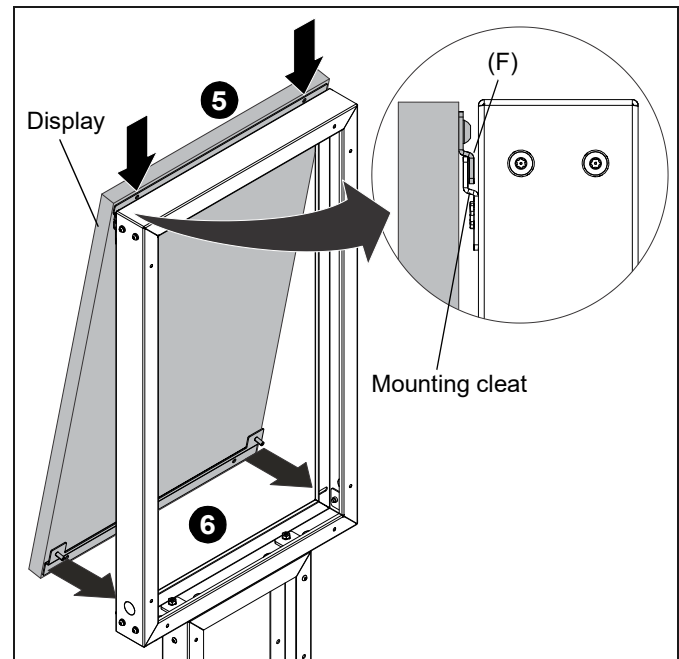

Figure 15
5. Using two people, lift the display into place over the front side of the frame (A). Orient the extruding edge on the upper bracket (F) between the frame and the mounting cleat.
6. Gently orient the lower edge of the display down towards the frame, making sure the protruding screws on the lower bracket (G) fit into the slots in the frame. (See Figure 15)